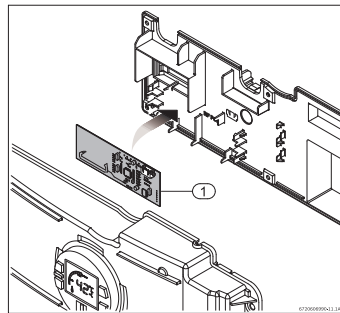

Fig. 8
- Place the remote control PCB in the back cover of the control unit as shown in Fig. 8.